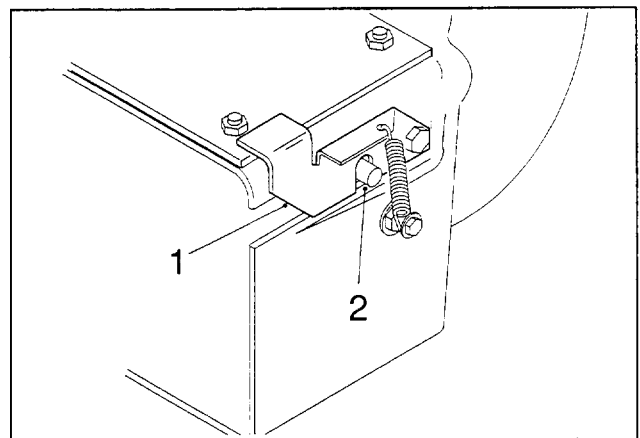

Figure 6
4. With the belt installed, swing the blower toward the mower until the blower latch locks over the pin at the back of the mower (Fig. 6).